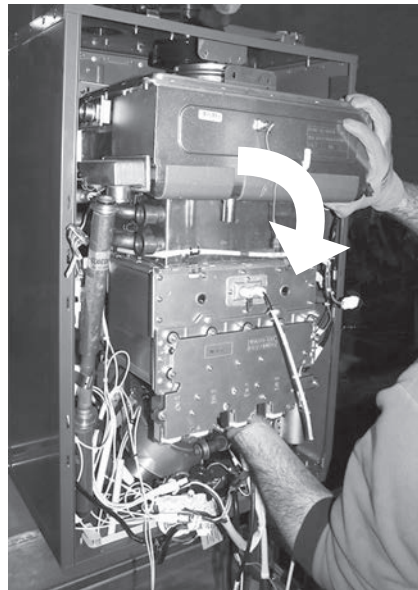
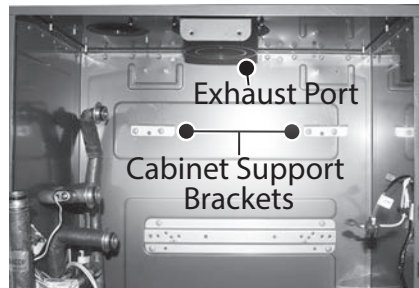

Figure 156 - Removing heat exchanger assembly
Figure 157 - Cabinet support brackets
- 48** Remove the top two screws from install bracket. Allow heat exchanger to drop slightly so it can be disconnected from exhaust port then lift to remove heat exchanger from the two cabinet support brackets and the water heater. See Figure 156 and Figure 157 for reference.
- 72** Lift heat exchanger assembly into water heater cabinet. Lean the top side of heat exchanger slightly toward you so the two tabs on the backside of the secondary heat exchanger insert into the two cabinet support brackets as shown in Figure 157.